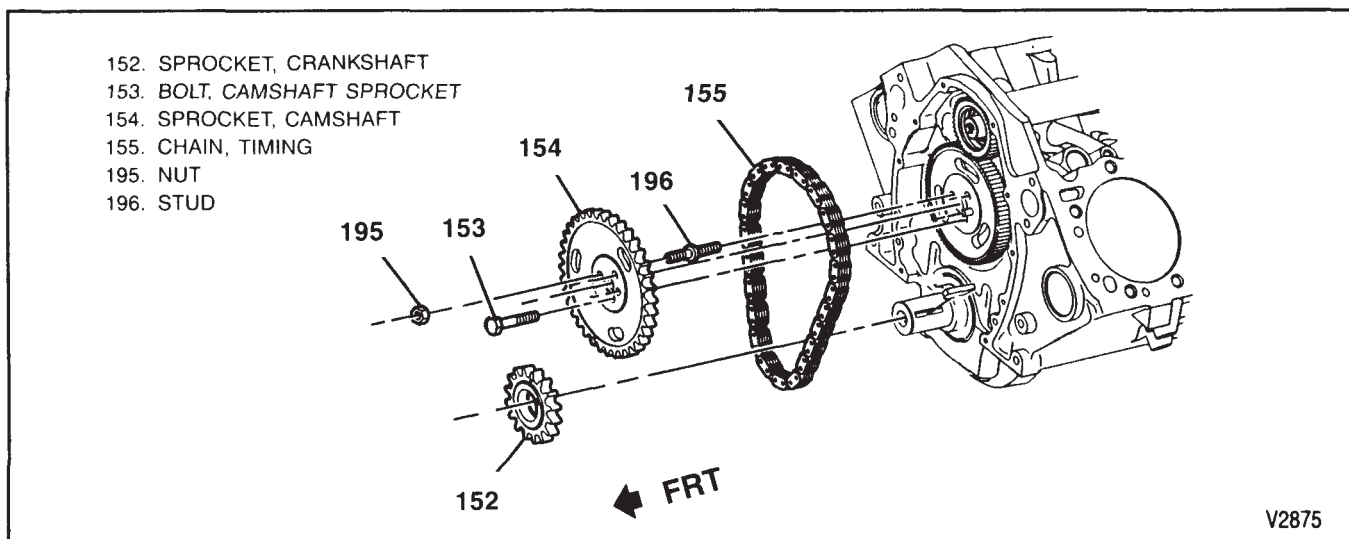

Figure 41—Camshaft and Components (VIN W Engine)
- Line up the timing marks on the camshaft sprocket and crankshaft sprocket dot to dot (figure 41). When these marks are lined up dot to dot, the number four cylinder is at top dead center of its compression stroke. The distributor rotor will need to be positioned facing the number four terminal on the distributor cap when installed.